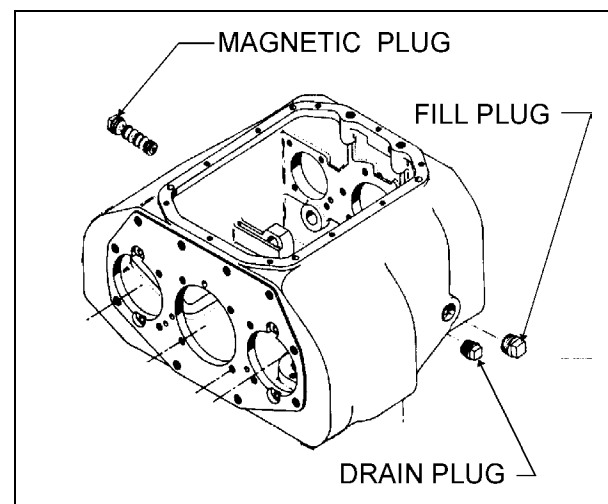

FIGURE 1: PLUGS
Unscrew the fill plug and verify if the oil level is at plug thread level (Fig. 1).
1. Unscrew the drain plug (Fig.1) and allow the oil to drain into a suitable container.